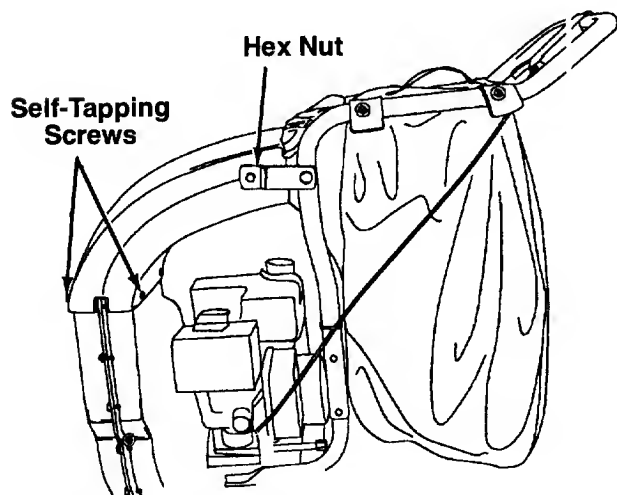

FIGURE 10.
3. Remove the four self-tapping screws from the bottom of the discharge chute, and the hex bolt, flat washer and hex nut from the top. Remove the discharge chute assembly. See figure 10.